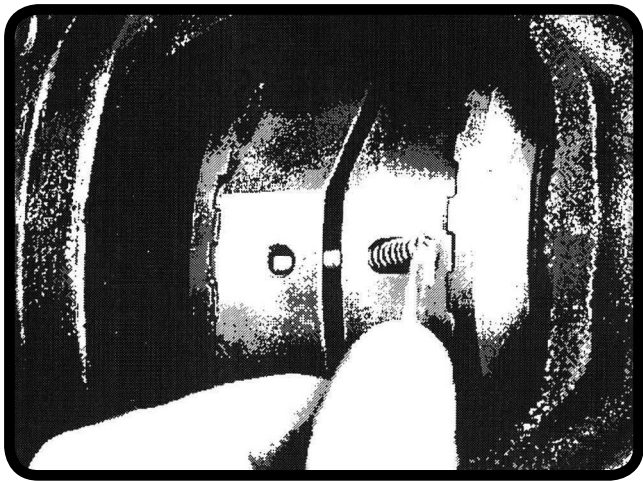
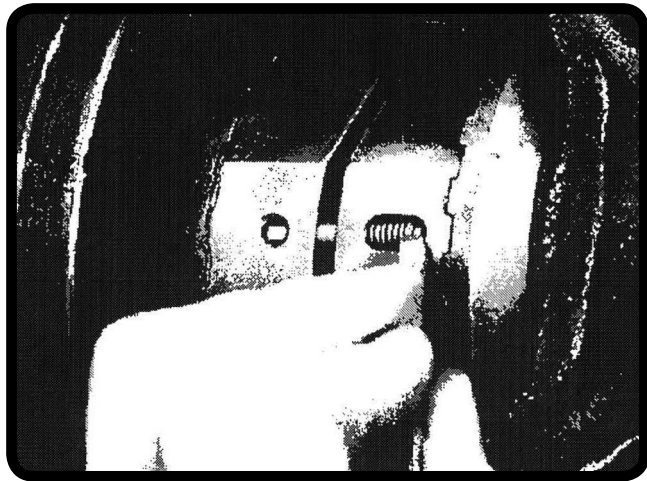

Figure 7
Figure 8
3. Place one end of a spring assembly (small spring inside the large one) into the window hole, behind the pin (**Figure 7**). Compress it with a small screwdriver and pop the bottom into the window hole (**Figure 8**).